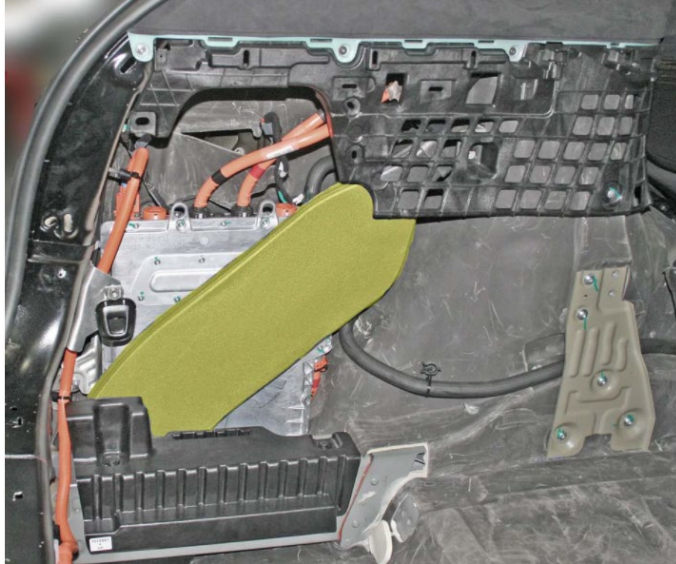

Figure 1
2. Remove the foam HVAC ducting (Figure 1).